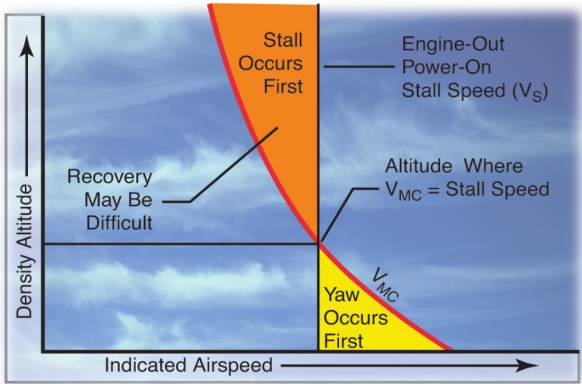

Figure 13-14. Graph depicting relationship of V_{MC} to V_S .
AFH Fig 13-14 — V_{MC} vs V_S — Density-Altitude Trap
Misses V_{MC}/V_S convergence	Recites factors but cannot say why density altitude is dangerous. Fix: redraw Fig 13-14 from memory.
- (20 min)** SMACFUM: build the table on the board, ask "why?" for every letter. Close on Fig 13-14 — the density-altitude convergence.